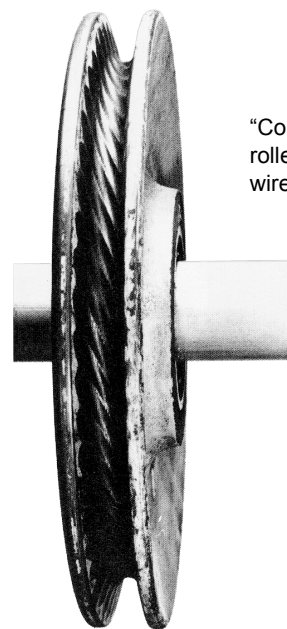

Figure 5-40.
6. Remachine or replace steel sheaves, drums, or rollers that have been corrugated by the wire rope's print as shown in Figure 5-40.